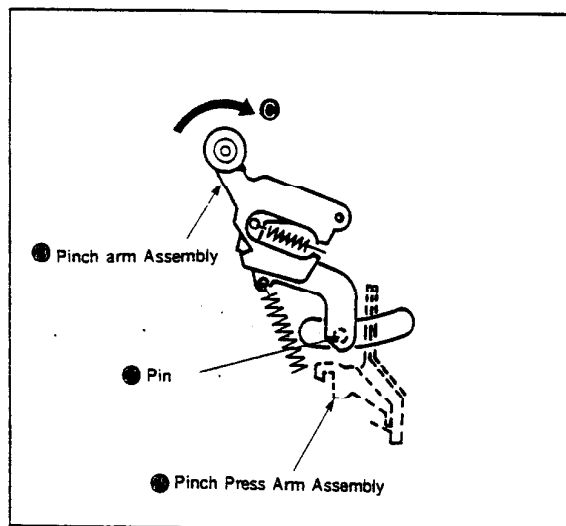

Fig. 19
- 3) Put the pin ● of the pinch arm assembly ● into the left side of the pinch press arm assembly ●. (Fig.19)